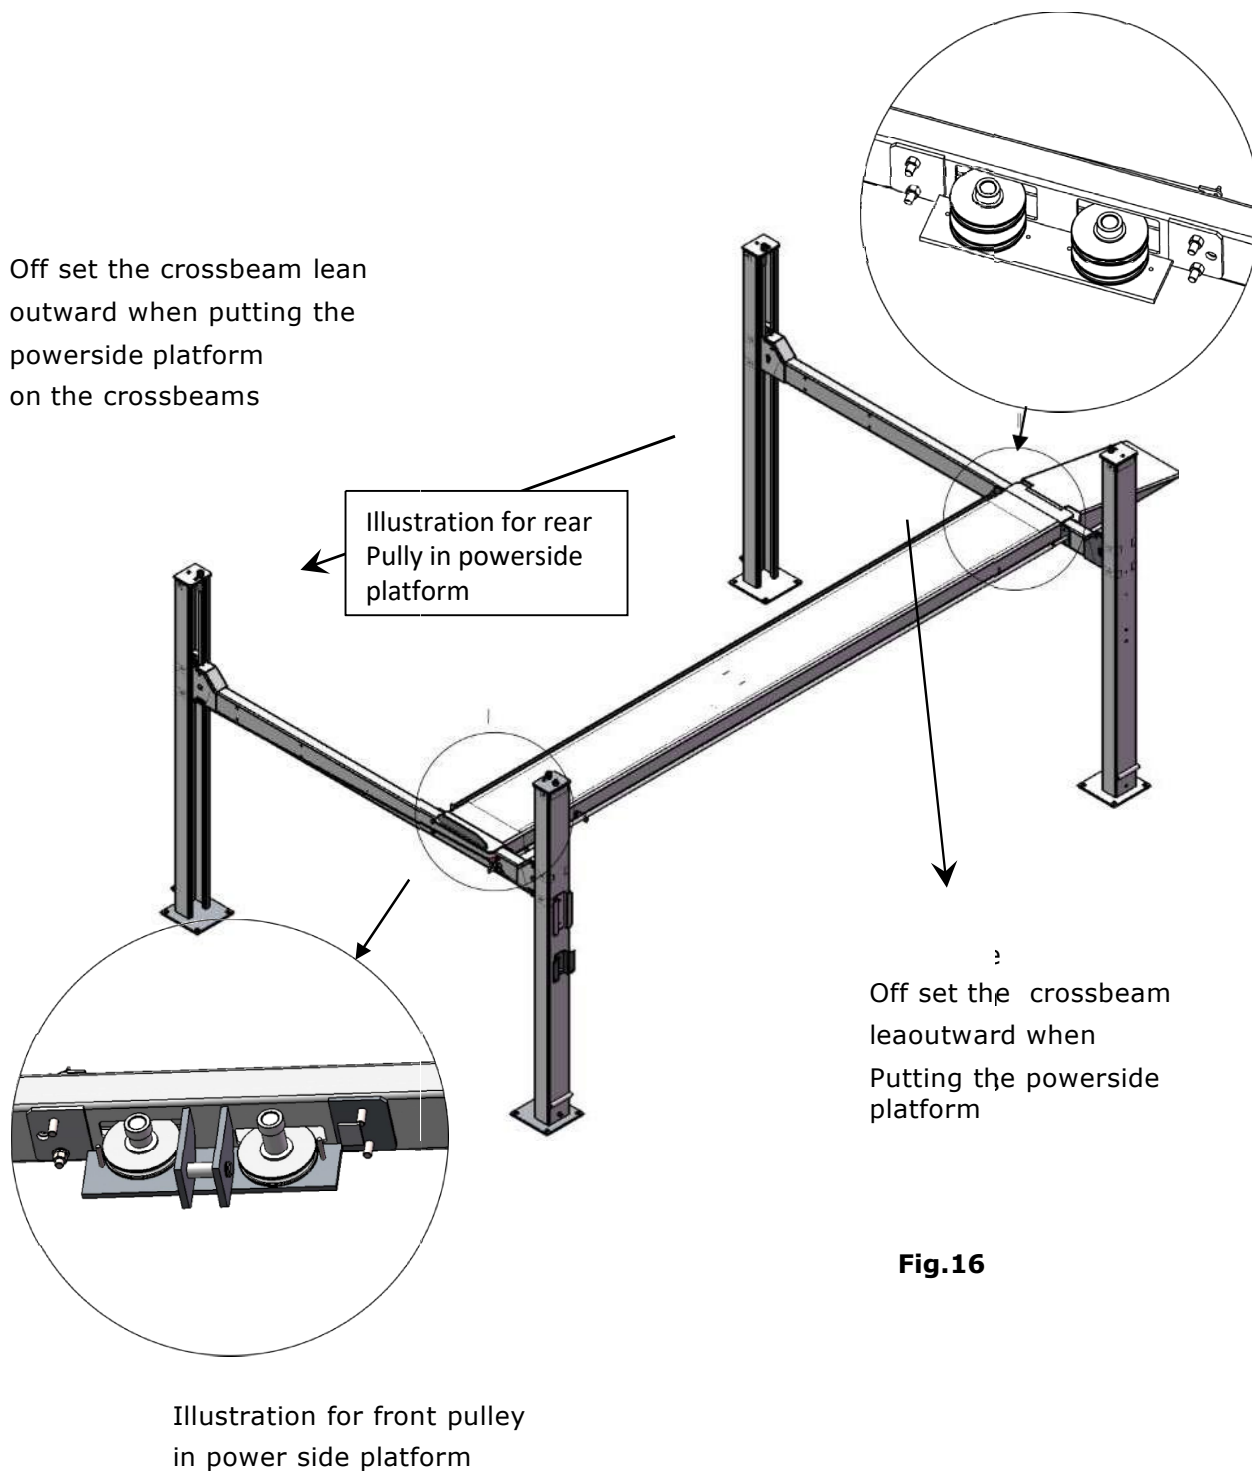

Fig.16
1. Raise the power side platform above the crossbeam by a forklift or crane. Then move the crossbeam outwards until the pulleys of both platforms can be rested into the crossbeams's lots (see **Fig.16**). Tighten the Powerside Platform to the Cross beams by using bolts.